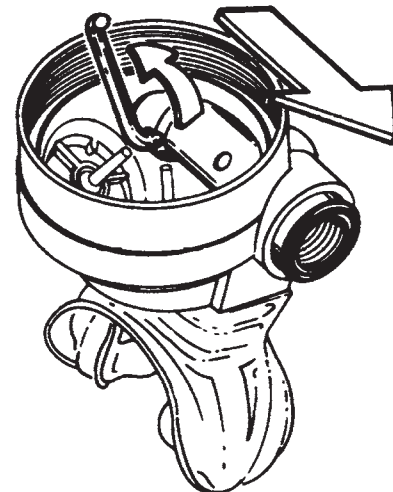

Figure 1
1. Slide back the hose protectors from both ends of the hose. While holding the hex nut (item 24) with a $\frac{3}{4}$ " wrench, use a $\frac{11}{16}$ " wrench to unscrew the swivel end of the hose. Use a $\frac{9}{16}$ " wrench to unscrew the hose from the 1st stage body.
2. Remove and discard the o-rings (items 29 and 30) from both ends of the hose.
3. Remove the color ring (item 1) from the front cover by turning it counter clockwise by hand.
4. Place the two pins of cap wrench (G1001-88) into the slots of the retaining ring (item 2). Turn counter clockwise to remove.
5. Lift out the purge cover (item 3) and diaphragm (item 4).
6. Use a $\frac{3}{4}$ " wrench and remove the hex nut (item 24) by unscrewing it counter clockwise.
7. Remove the cap (item 13) by turning it counter clockwise using the screwdriver blade of the cover wrench (G1001-88).
8. Remove and discard the o-ring (item 12).
9. Remove the adjustment screw (item 11) with a $\frac{1}{8}$ " flat-blade screwdriver, turning counter clockwise.
10. Remove the small plastic washer (item 10) and the spring (item 9) from the stem of the adjustment screw.
CAUTION: The lever (item 5) must be pulled up and out of the way prior to sliding the valve body (item 16) over in the case. Failure to do this will cause the lever to become stuck in the exhaust port of the case. *Figure 1.*
- a) Rotate the lever (item 5) up against the side of the case. *Figure 1.*
- b) Push the valve body (item 16) into the case from the hose side until the head of the pin (item 6) is exposed.